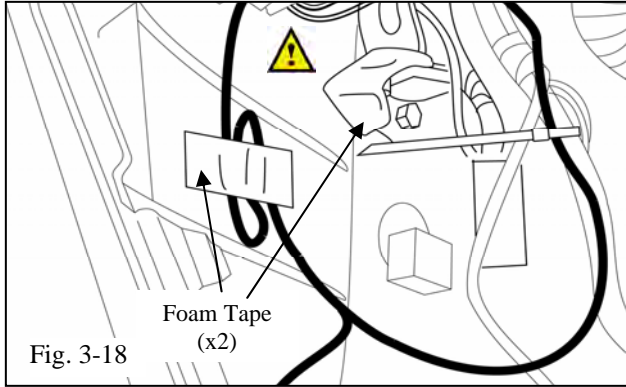

Fig. 3-18
- (w) Bundle any excess EC mirror harness wires and secure to inner dash area in dash storage compartment area with 1 piece of foam tape. (Fig. 3-18)
-  (x) Cover sharp edge of dash support bracket mount with 1 piece of foam tape. (Fig. 3-18)